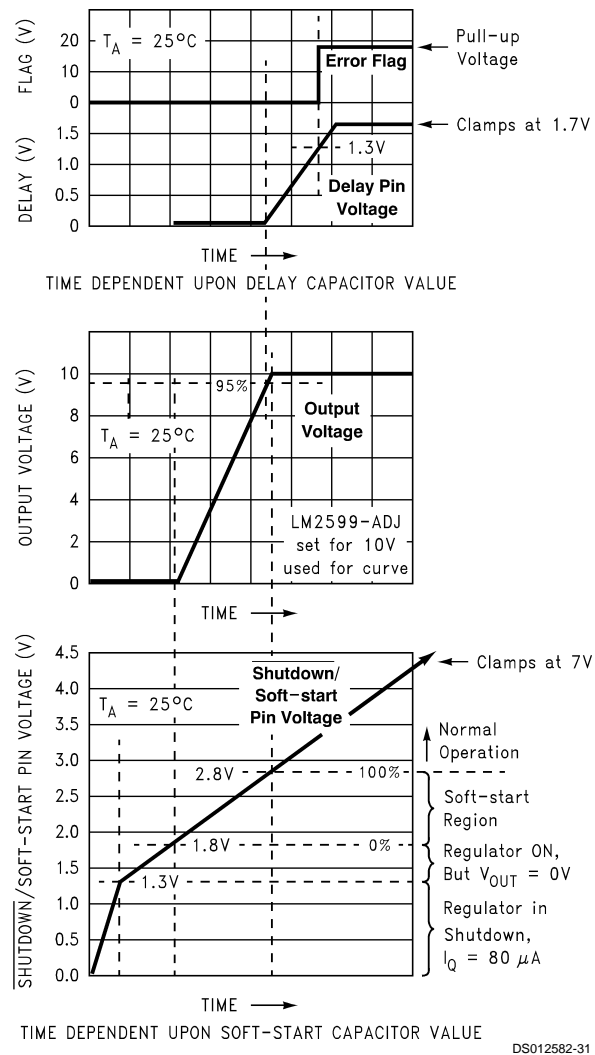
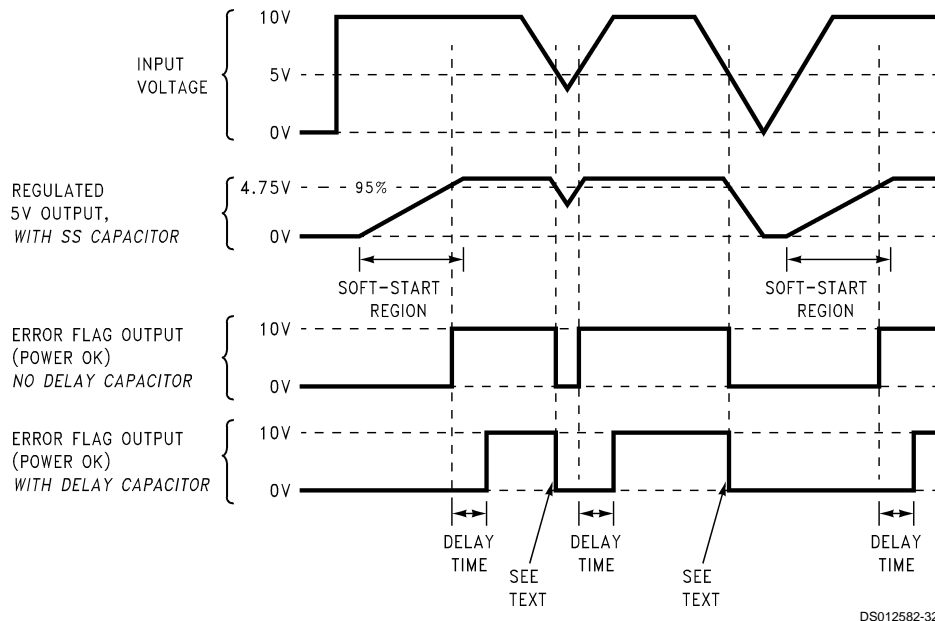

FIGURE 13. Soft-start, Delay, Error, Output
FIGURE 14. Timing Diagram for 5V Output
C_{SS} —A capacitor on this pin provides the regulator with a Soft-start feature (slow start-up). When the DC input voltage is first applied to the regulator, or when the Shutdown /Soft-start pin is allowed to go high, a constant current (approximately $5 \mu A$ begins charging this capacitor). As the capacitor voltage rises, the regulator goes through four operating regions (See the bottom curve in Figure 13).
3. Soft-start Region. When the \overline{SD}/SS pin voltage is between 1.8V and 2.8V (@ 25°C), the regulator is in a Soft-start condition. The switch (Pin 2) duty cycle initially starts out very low, with narrow pulses and gradually get wider as the capacitor \overline{SD}/SS pin ramps up towards 2.8V. As the duty cycle increases, the output voltage also increases at a controlled ramp up. See the center curve in Figure 13. The input supply current requirement also starts out at a low level for
Note: The lower curve shown in Figure 13 shows the Soft-start region from 0% to 100%. This is not the duty cycle percentage, but the output voltage percentage. Also, the Soft-start voltage range has a negative temperature coefficient associated with it. See the Soft-start curve in the electrical characteristics section.
C_{DELAY} — Provides delay for the error flag output. See the upper curve in *Figure 13*, and also refer to timing diagrams in *Figure 14*. A capacitor on this pin provides a time delay between the time the regulated output voltage (when it is increasing in value) reaches 95% of the nominal output voltage, and the time the error flag output goes high. A 3 μ A constant current from the delay pin charges the delay capacitor resulting in a voltage ramp. When this voltage reaches a threshold of approximately 1.3V, the open collector error flag output (or power OK) goes high. This signal can be used to indicate that the regulated output has reached the correct voltage and has stabilized.